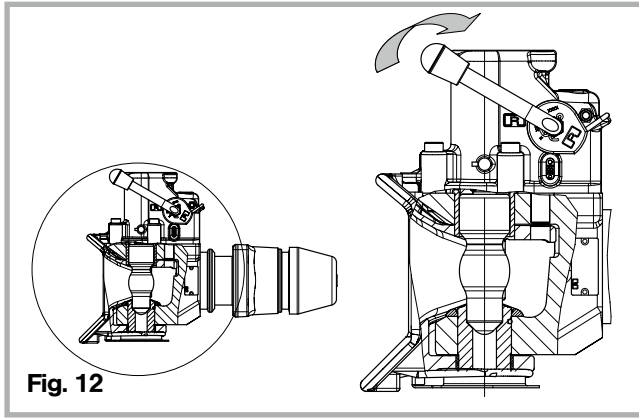

Fig. 12
- The funnel must swing back in central position and be locked again (see fig. 12)